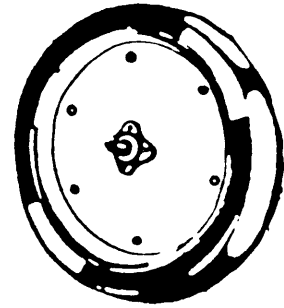

Figure 31
- 1/ Attach the press wheel assemblies to the rear toolbar. (See figure 31)